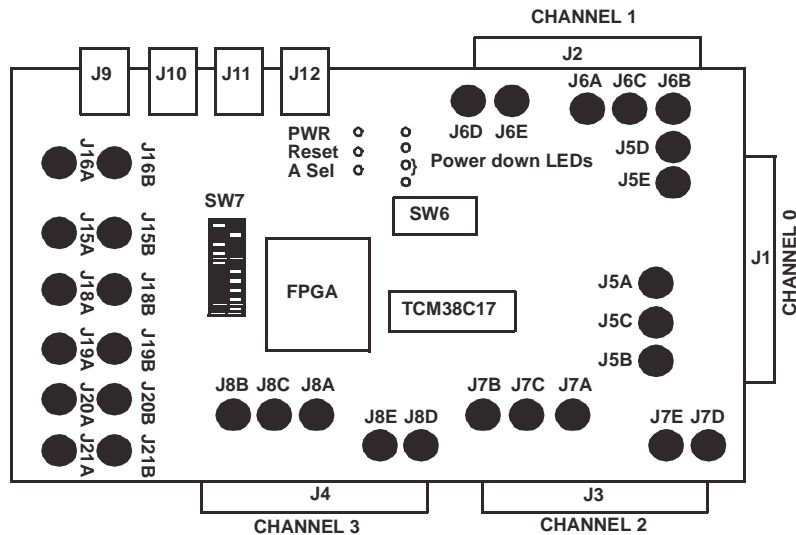

FIGURE 3. MOTHER BOARD LAYOUT
2. Connect daughter board to port J1 of mother board Reference Figure 3.
6. All of the channel power-down LEDs will be illuminated along with the PWR LED and the A SEL LED (Figure 3). **This test will be preformed with all channel from the mother board in the power down condition (all LEDs illuminated).**
6. All of the channel power-down LEDs will be illuminated along with the PWR LED and the A SEL LED (Figure 3).
2. Connect daughter board to port J1 of mother board. Reference Figure 3.
7. All of the channel power-down LEDs will be illuminated along with the PWR LED and the A SEL LED (Figure 3). **This test will be preformed with all channel from the mother board in the power down condition (all LEDs illuminated).**